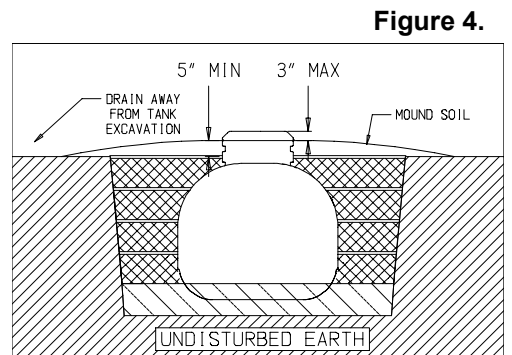

Figure 4.
- IMPORTANT:** Mound the soil over the septic tank to provide settling in the excavated area. The lid with riser must extend a maximum of 3" above finish grade or per applicable code. [Figure 4].